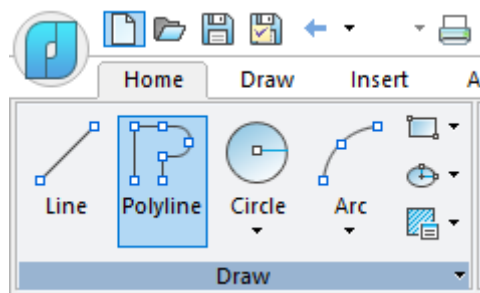

Fig. 1. The **Polyline** command
1.1. Run the **Polyline** command (fig. 1):